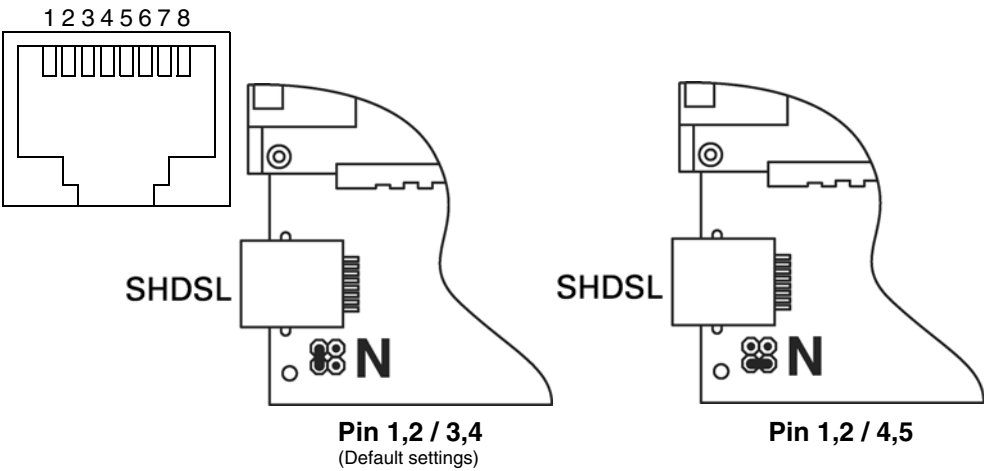

Fig. 2.86 RJ45 connector of the SHDSL interface
1) Depends on Jumper "N" (Fig. 2.86)